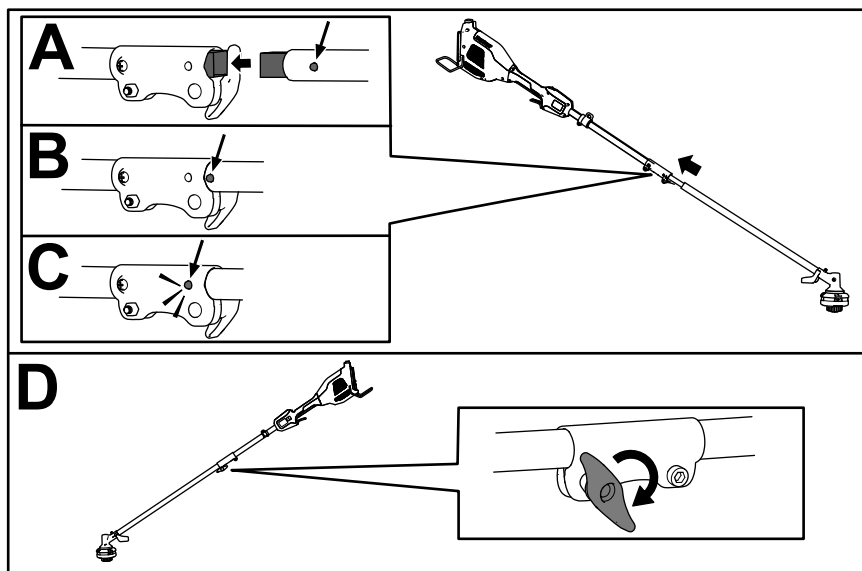

Figure 4
1. Install the square shaft of the string trimmer attachment into the square shaft of the power head (A of Figure 4).
2. Align the locking button on the lower shaft with the slotted hole on the upper shaft and slide the 2 shafts together (B and C of Figure 4).
Note: The locking button clicks into the slotted hole when the shafts are secured (C of Figure 4).
3. Using the screw-handle, tighten the screw on the shaft connector until it is secure (D of Figure 4).